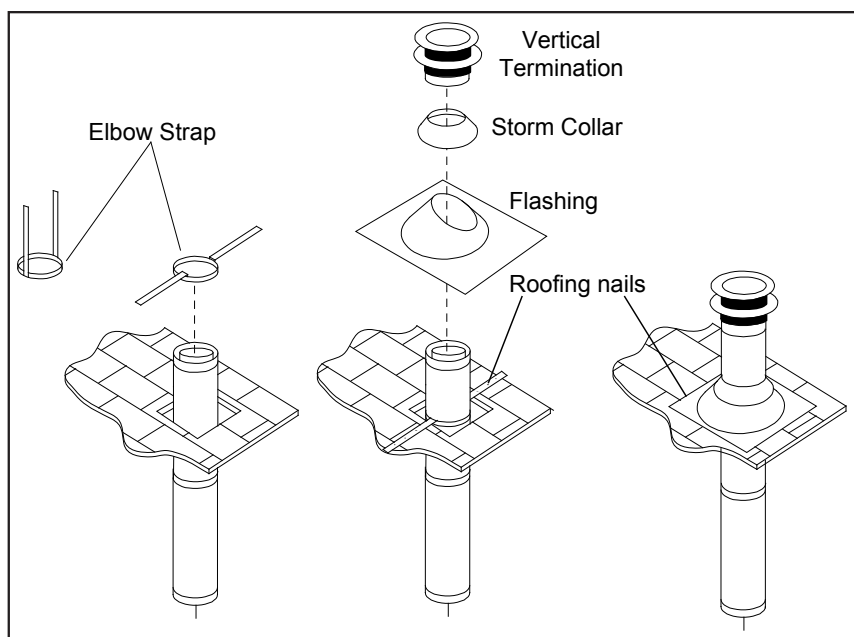

Figure 24: Vertical Vent Termination Installation.
down to the roof level, as shown in Figure 24. Tighten the clamp around the pipe section. Use a level to make sure the pipe is truly vertical. With roofing nails, secure the support straps to the roof. Seal the nails holes heads with non-hardening mastic. Trim the excess length of the support straps that extend out beyond the edge of the flashing.
STEP 7. Slip the flashing over the pipe section protruding through the roof. Secure the base of the flashing to the roof with roofing nails. Use a non-hardening sealant between the uphill edge of the flashing and the roof. Insure the roofing material overlaps the top edge of the flashing as shown in Figure 24. Verify that you have at least the minimum clearance to combustibles at the roof line.
STEP 9. Slip the storm collar over the pipe, and push it down to the top of the roof flashing as shown in Figure 24. Use the non-hardening sealant around the joint between the pipe and the storm collar.